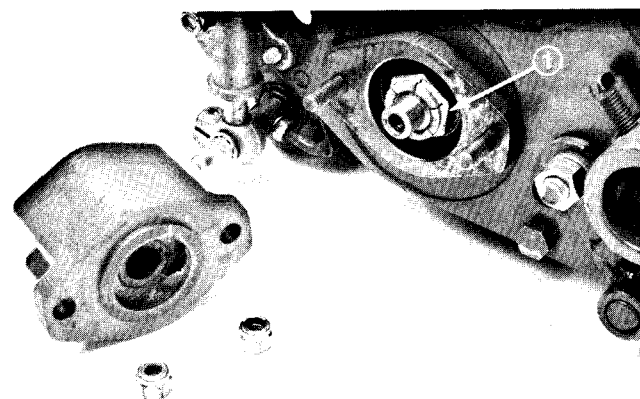

Figure 7
3. Loosen large reel bearing adjustment nut (Fig. 7). Tighten nut until all reel shaft end play is removed, then tighten an additional 1/16 to 1/8 turn. Be certain to remove all end play, but do not overtighten.
4. Install bolt into end of reel shaft and check rolling torque with an inch-pound torque wrench (Fig. 7). Reel bearing rolling torque should not exceed 7 in-lb. Repeat steps 2 and 3 if necessary.